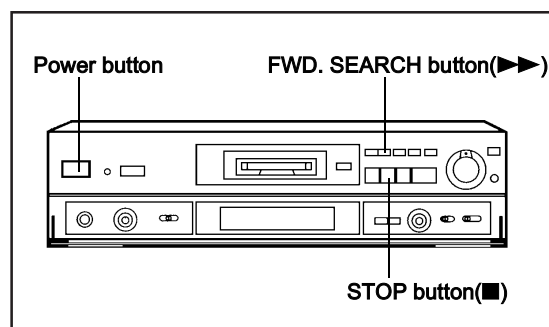

Fig. 1
2. With no MD loaded in the player, simultaneously press the [■ STOP] button and the [▶▶ FWD.SEARCH] button and hold them both pressed for at least 2 seconds until "MD TEST" appears in the display. (see Fig. 1)